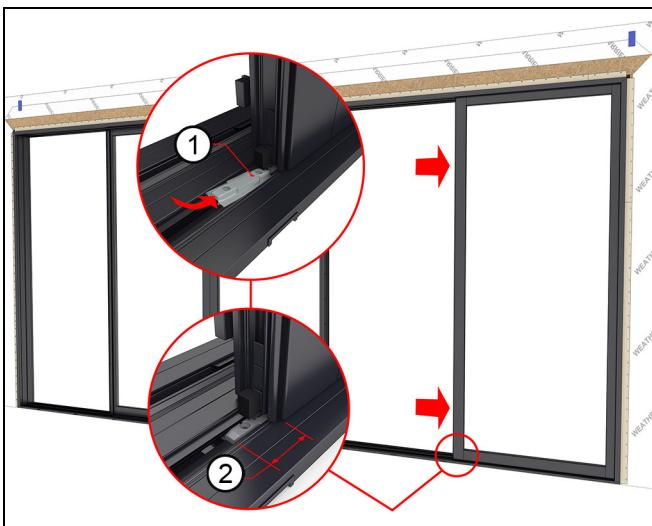

Figure 134
6. Snap the lower stationary bracket onto sill, then slide underneath the (H) stationary panel until fully seated. The bracket should stick out approximately $2 \frac{1}{4}$ " (57) from panel when fully seated. Fasten with #8 x 1/2" self drilling screw. See Figure 134.